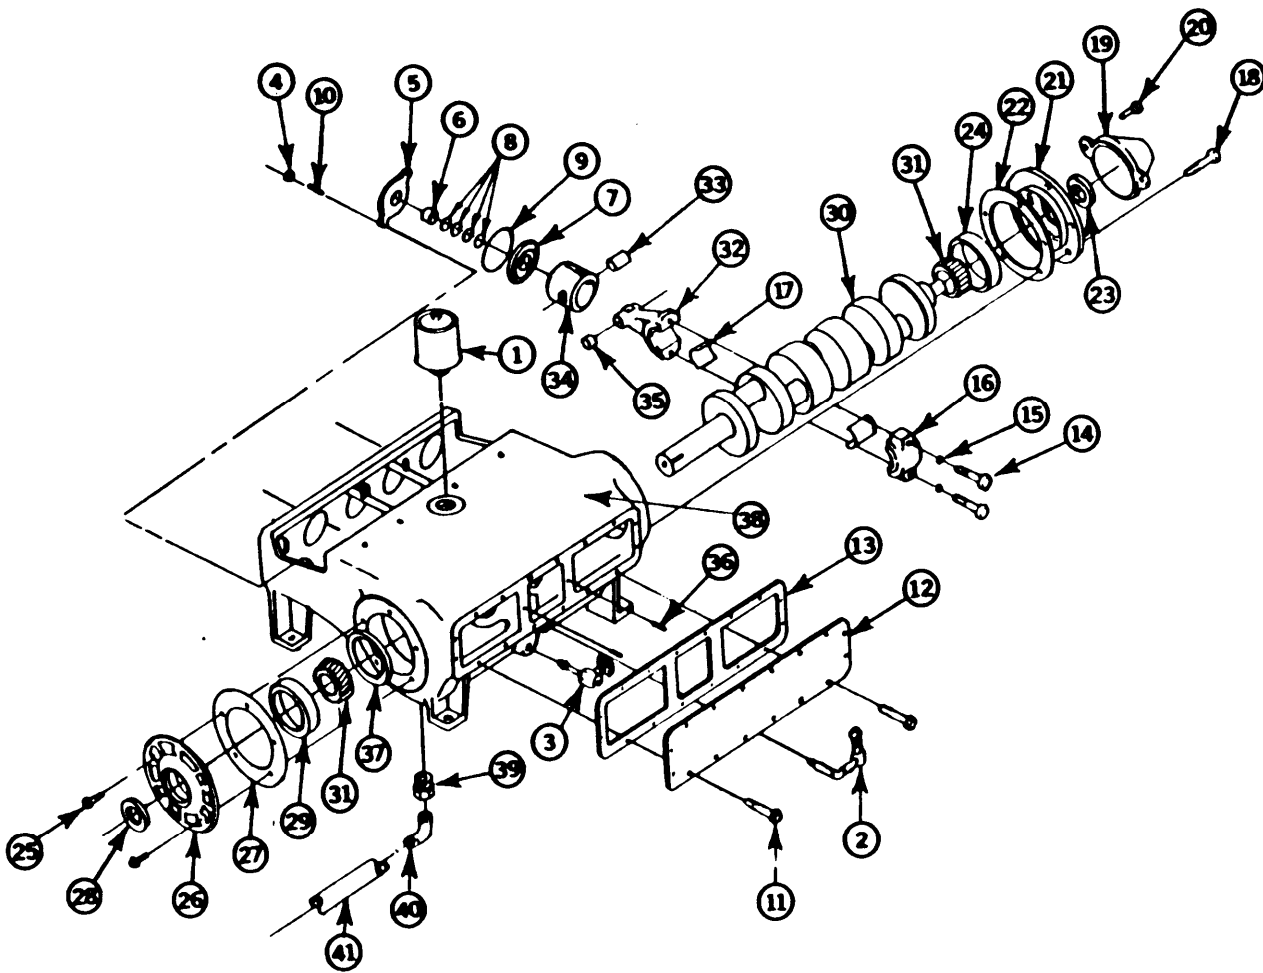

Figure 4-1. R. O. Pump
- (1) If necessary, remove R.O. pump from ROWPU frame in accordance with paragraph 2-73.
- (2) Before moving pump into work area, wash entire pump with a stiff brush and a mild soap solution.
- (3) Rinse with a fine spray of water and allow to air dry.
- (4) Move pump into work area.
- (5) Remove suction/discharge assembly from pump power frame in accordance with paragraph 4-3.
- (6) Remove air breather (1) (figure 4-1) from pump power frame (38).
- (7) Remove oil sight gage (2) from pump power frame (38).
- (8) Remove oil drain valve (3) from pump power frame (38).
- (9) On each of five wiper boxes, remove two nuts (4) from studs (10).
- (10) Remove gland (5) from studs (10).
- (11) Remove follower (6) from wiper box (7).
- (12) Remove wiper box (7) from pump power frame (38).
- (13) Remove packing (8) from wiper box (7). Discard packing (8).
- (14) Remove seal (9) from wiper box (7). Discard seal (9).
- (15) Remove two studs (10) from pump power frame (38).
- (16) Remove sixteen capscrews (11) from power frame (38), gasket (13), and crankcase cover (12).
- (1) Pack two main bearings (37) (figure 4-1) in dry ice for about 20 minutes.
- (2) Place main bearings (37) into proper position in power frame (38) and secure with setscrews (36).
- (3) Press new bushing (35) into connecting rod (32).